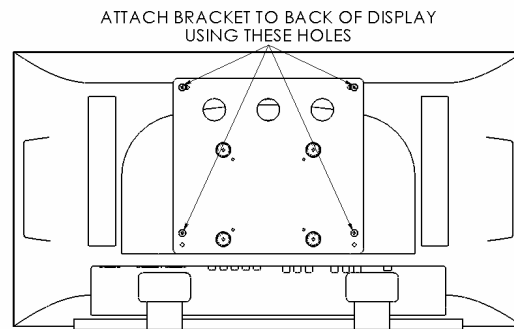
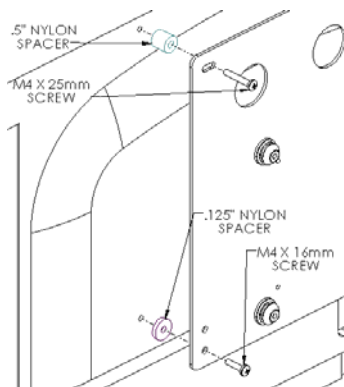
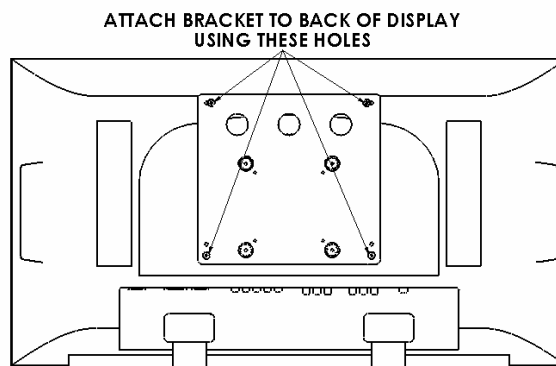

Figure 4
Figure 5
Figure 6
2. Place Nylon spacers on mounting holes, aligning hole pattern on brackets with pattern on back of display making sure to use long spacers on upper holes and short spacers on lower holes (for 23" see Figure 3 and Figure 4, for 27" see Figure 5 and Figure 6).